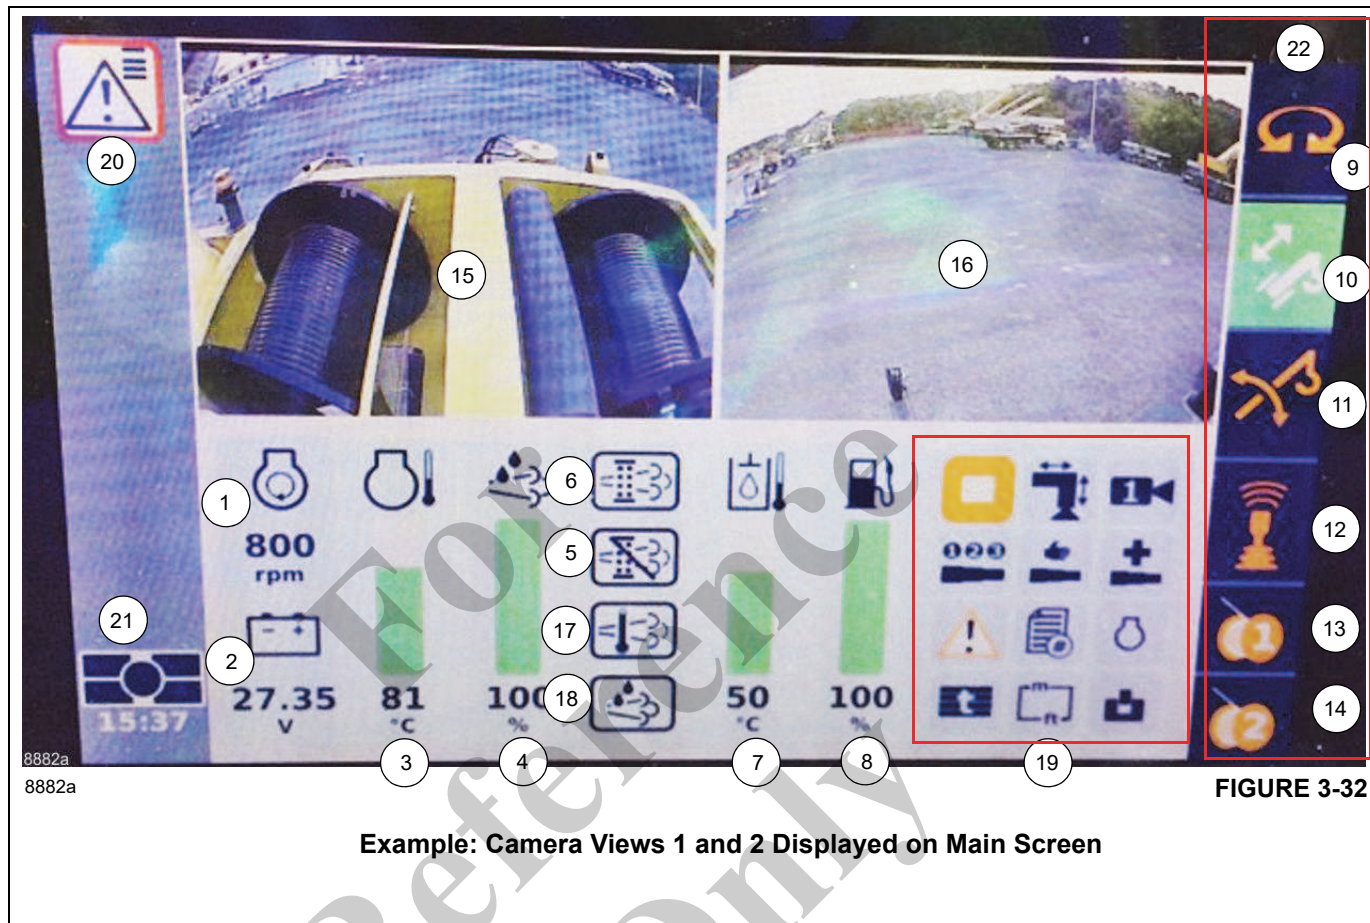

FIGURE 3-32
The Operator Display Module (ODM) is located above the Ignition Switch in the Superstructure Cab. The home screen shows the key indicators as shown below in Figure 3-31 and Figure 3-32. The optional camera package is also shown in Figure 3-32. For additional information on the optional camera package, refer to Camera Group for Crane Operation (Optional), page 6-14 and the Camera Group (Optional) Display on ODM, page 6-15. For additional information on the ODM, refer to Navigating the Operator Display Module (ODM) and Rated Capacity Limiter (RCL) Display Module, page 4-37.
The following Status Bar Icons can appear in the Status Bar (3), (Figure 3-32) area of the ODM Main Screen: